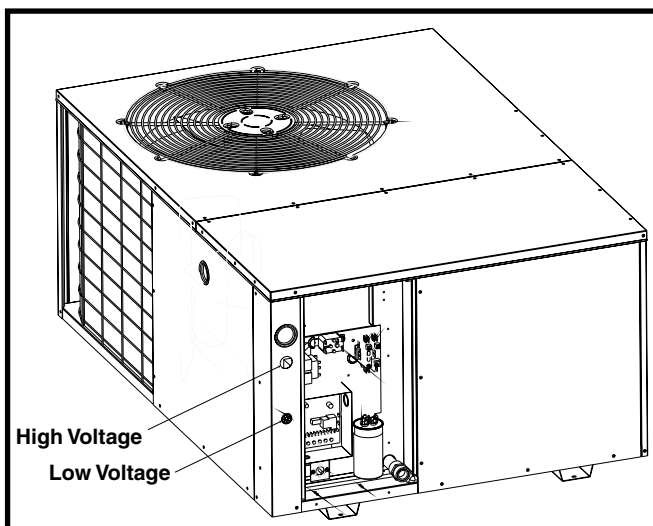

Figure 5. Power Entry
- Connect the line-voltage leads to the terminals on the contactor inside the control compartment. Extend leads through power wiring hole (Figure 5). Connect L1 & L2 directly to the contactor.
1. Route 24V control wires through the sealing grommet (Figure 5 \(page 7\)) near the power entrance.